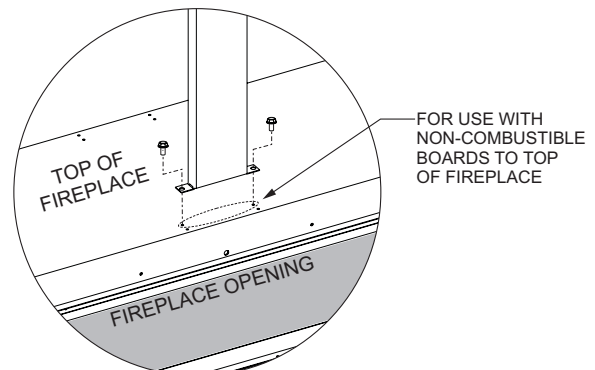

Figure 30 - OPTION 2
- 9b. **OPTION 2** - Secure the brackets to the fireplace top with screws. There are holes located in the top of the fireplace for each standoff bracket. The holes back further from the front edge of the fireplace are for mounting non-combustible board to the top of the fireplace so that tile or stone can cover the face. (Finishing **OPTION 2**). See Figure 30.